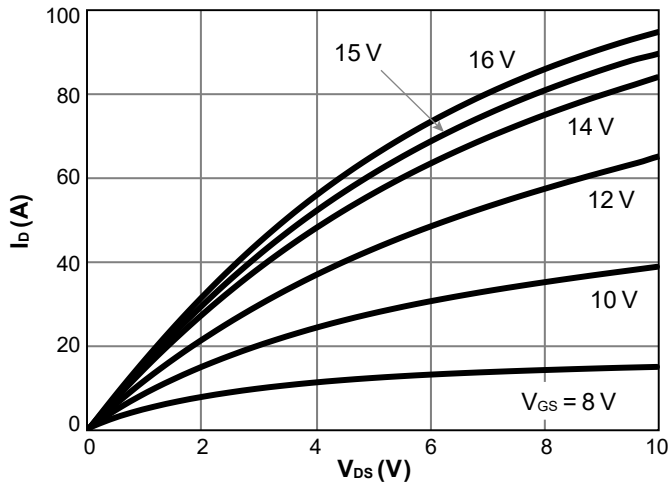

Figure 1. On-Region Characteristics $T_J = 25^\circ\text{C}$
- The static characteristics in Figures 1 to 8 are obtained using < 300ms pulses, duty cycle 0.5% max.